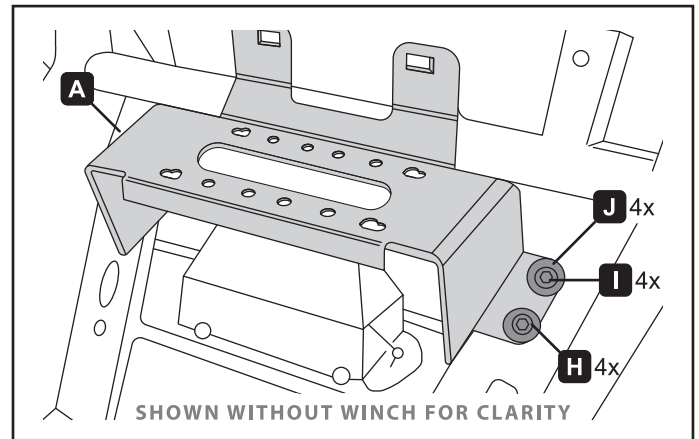

Figure 6.
3. Install winch and winch mount plate (A) to the bumper using bolts (I), washers (J) and nuts (H). See figure 6.